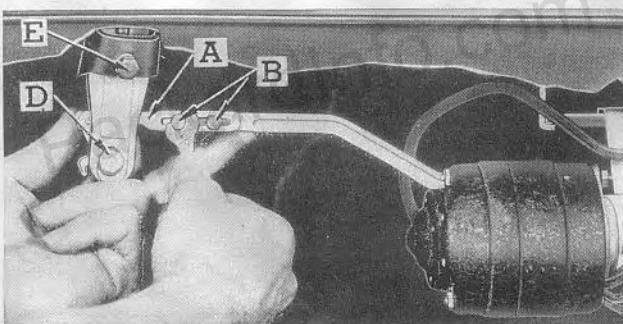
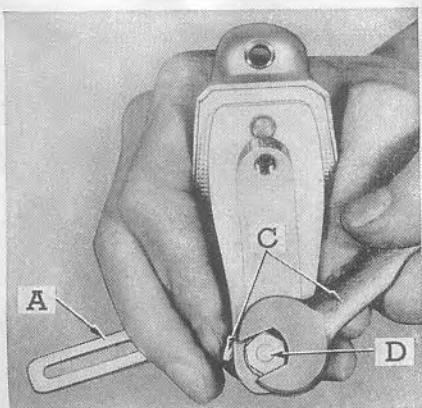

Fig. 39—Synchronizing the Wiper Blades by Adjustment of Links
Fig. 42—Removing Slack from Wiper Arm Connectors
2. Loosen adjusting screws "B" Fig. 39, at end of each motor link. Adjust right hand unit (viewed from rear of car) by pushing transmission link "A" towards electric motor as far as it will go then pull it out  $\frac{1}{16}$  of an inch and lock the adjusting screws.
**Removal of Slack**—The only adjustment on the transmission housings is to take up slack in the internal connectors as follows: Make sure that rods are hooked into connectors and that locking screws "B" Fig. 39 are removed from each unit. Now loosen nut "D" and push down the connectors on both sides as shown in Fig. 42 or pull down on link "A" until all slack is removed then tighten nut "D." It is not necessary to remove the transmission housings to make this adjustment.